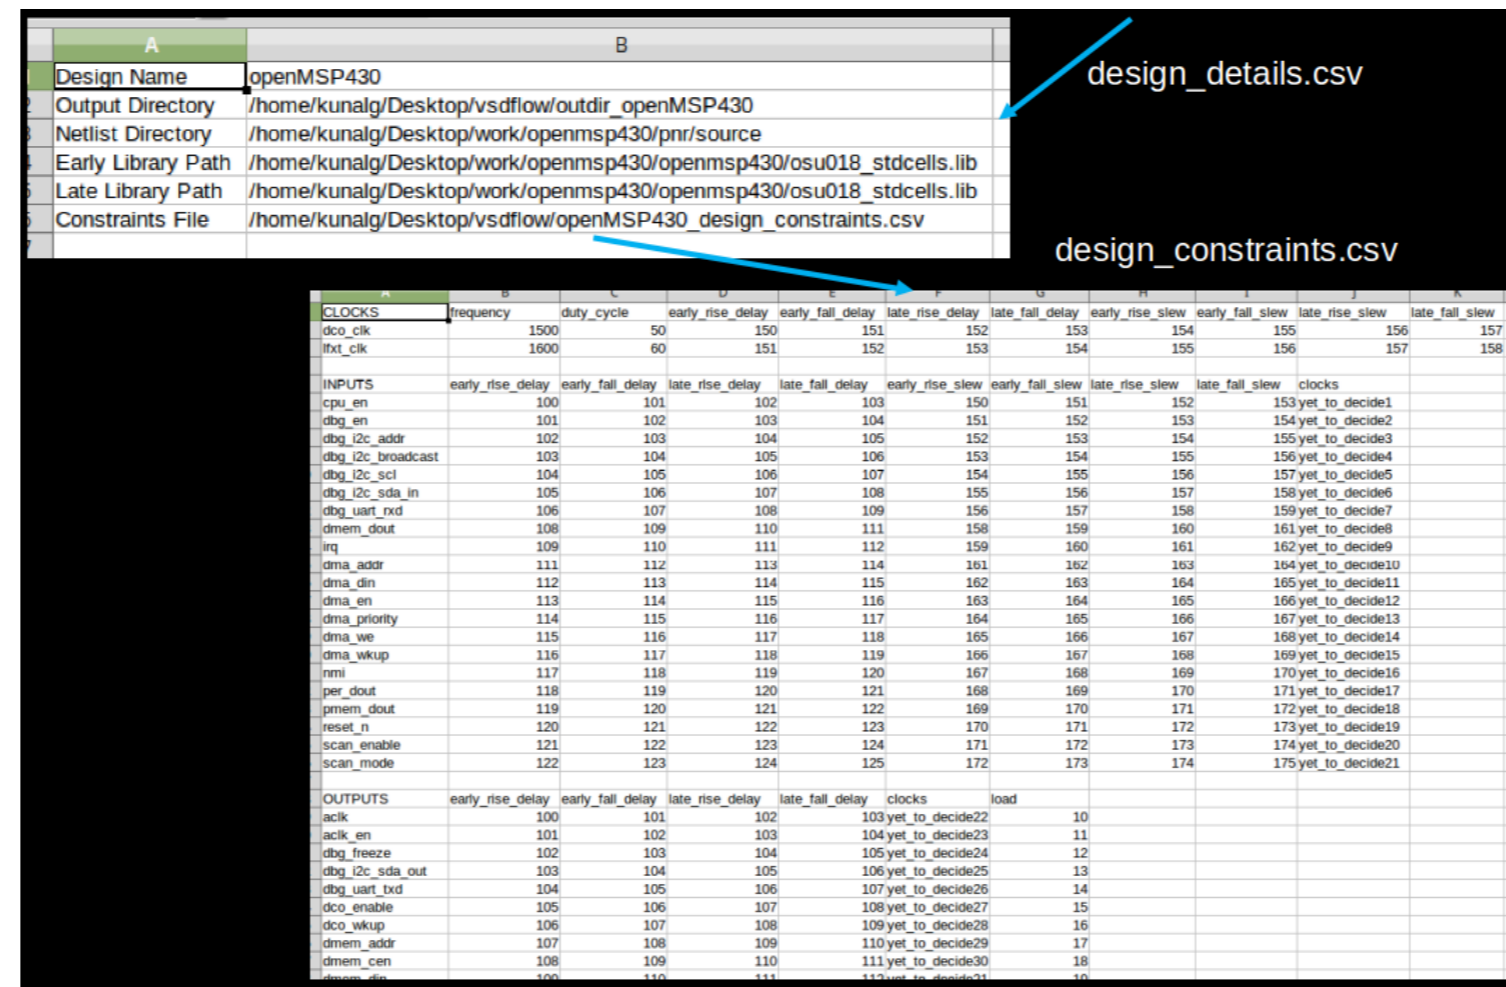

Figure 3: Input to vsdf flow in csv format
2. VSDFLOW allows user to feed design details and constraints in generalised format in csv file, which is a standard practise in industries, and achieve desired results, there-by enabling user to focus on crafting the best requirements for design. See figure 3